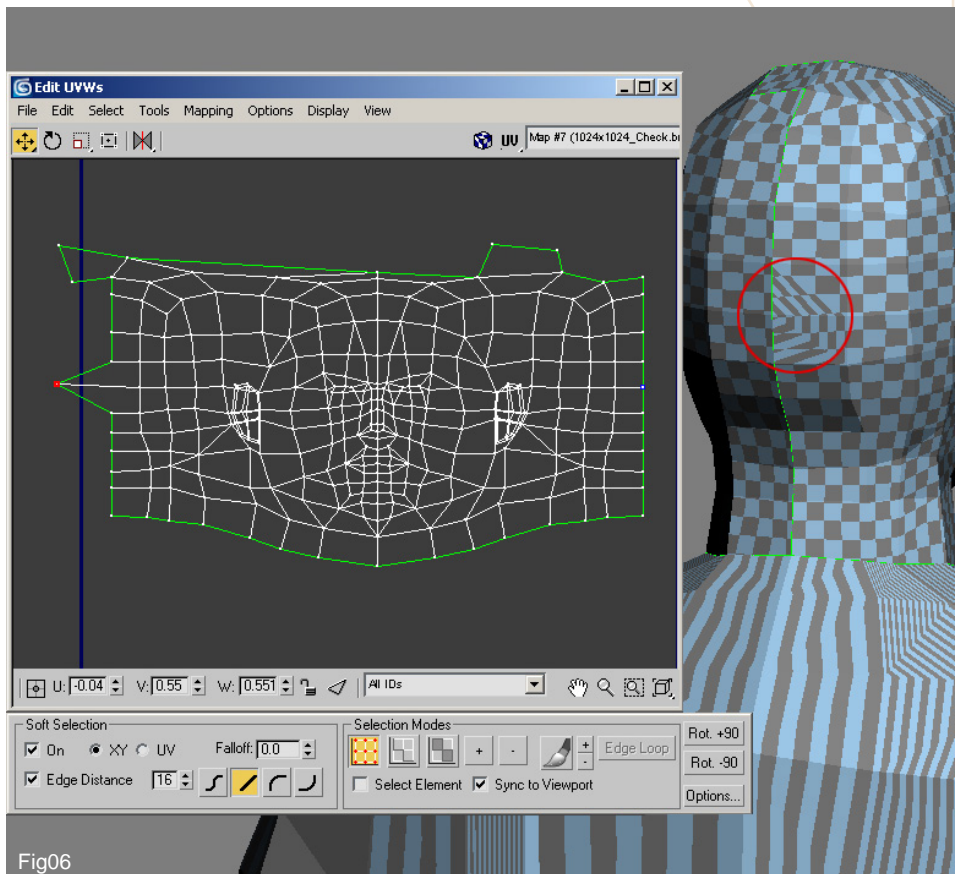

Fig06
6. Using the transform tools we can alter the mapping co-ordinates in this window which will directly affect the texture. On the left of Fig 06 you will notice a vert highlighted in red which has been moved out of alignment with its edge and as a consequence the checker map has been stretched in the corresponding position on the mesh, encircled in red. The basic premise of this part of the process is to use the tools available within this dialogue box to accurately mirror the checker map across the surface of our geometry. Start by using the scale tool to make the checkers appear square and then concentrate on details where stretching occurs. The green lines' surrounding the unwrapped head represent the seam lines / open edges and are also visible on the model in the viewport. There are two polys which you will notice fall outside of the neat edge and we shall go on to correct those later.